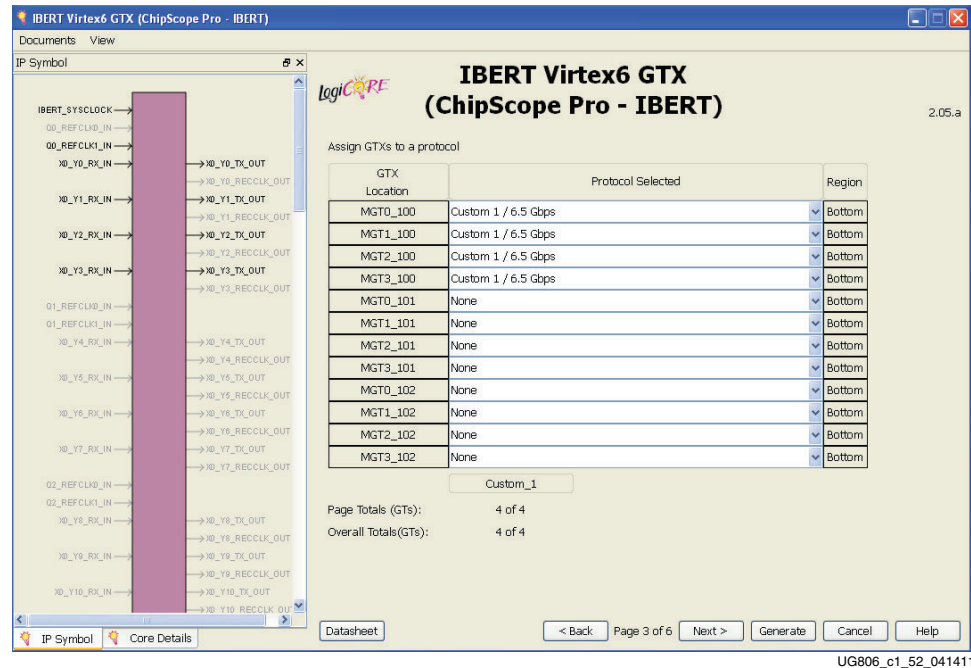

Figure 1-52: CORE Generator - IBERT GTX Customization - Page 3
11. Enter the information shown here and in Figure 1-52, then click **Next**:
13. Enter the information shown here and in Figure 1-52, then click **Next**: